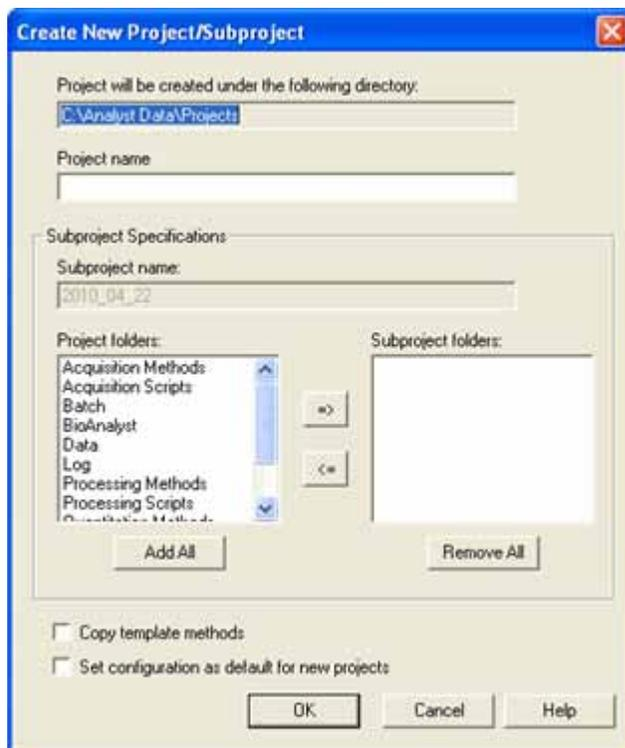

Figure 2-6 Create New Project/Subproject dialog
3. To use subprojects in this project, select the required folders in the **Projects folders** list and then use the arrow buttons to move them to the **Subproject folders** list (Figure 2-6).